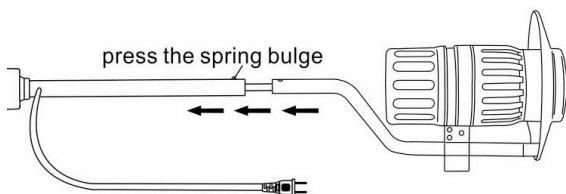

Figure 3
3. Insert the connector piece into the stand base. Align pole and connect by screwing nut as Figure 3.